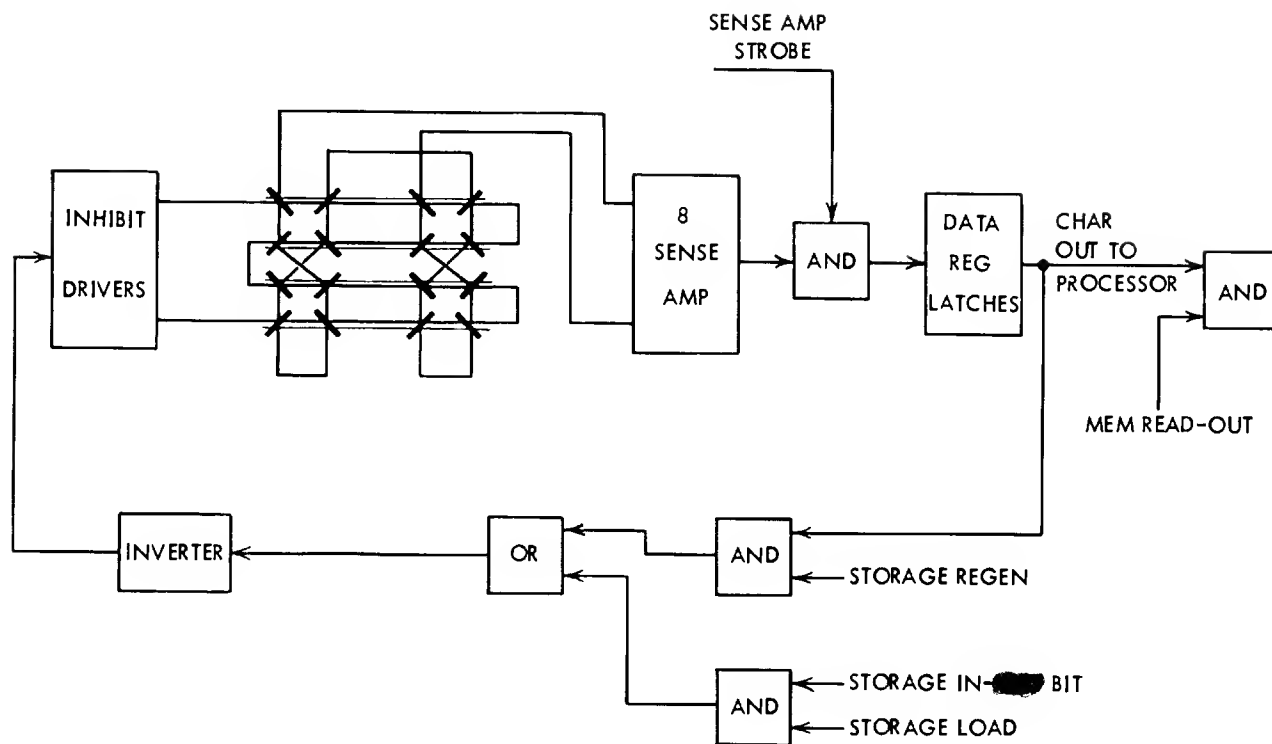

Figure 2.1-5 Core Storage Data Flow
#### 2.1.04 Data Flow Components (Figure 2.1-5)
Read. During the first half of any machine cycle (Figure 2.1-5) that uses core storage, the same relative core in each plane is pulsed with X- and Y-current in the read direction. This sets all cores at a given address to 0. Any 1's present are picked up on the sense lines, amplified by the sense amplifiers, and used to set the data latches. Cores that contain 0's do not activate any sense lines. The latches associated with these cores remain at 0.
Write. During the last part of any storage cycle (Figure 2.1-5) the same X- and Y-drive lines are always impulsed in the opposite, or write, direction. This current pulse is in the direction to place a 1 in the addressed cores. However, if the data-register latches are OFF (0), the inhibit gate pulses the inhibit winding during write time. Because this inhibit pulse is in the direction opposed to the write pulse in the X-winding, the addressed core is pulsed with half-select current that leaves it in the 0-state.
2. Activate the inhibit drivers (Figure 2.1-5) with the new information from some other unit of the system.